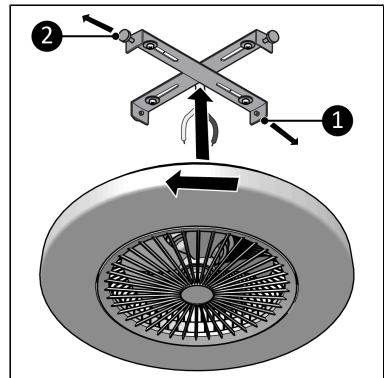

Figure 29.
9. First remove the two screws from the mounting bracket that are not intended for the L-shaped slotted holes (Figure 29, pos. 1 & 2).